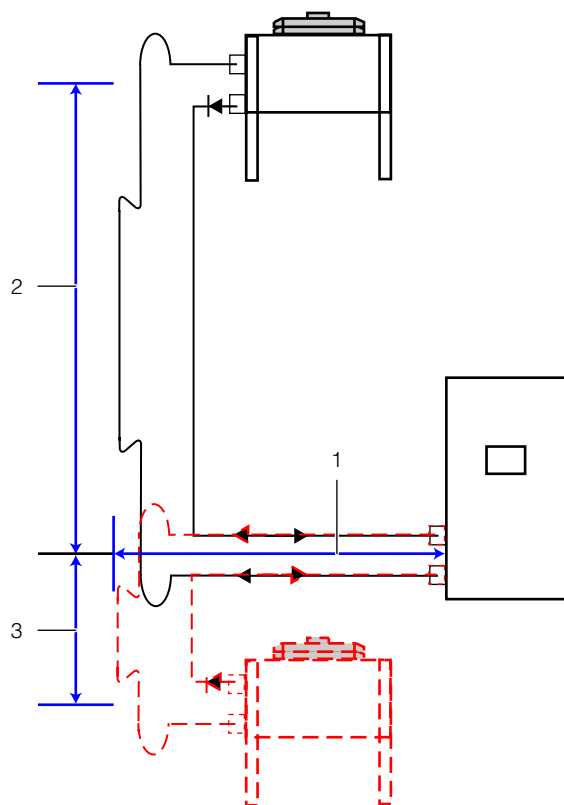

Fig. 12: Relative positioning
Sum total of horizontal (fig. 12, item 1) and vertical spacing (fig. 12, item 2 or item 3) between the LCP DX and the condenser	Max. 30 m equivalent length
Condenser above LCP DX (fig. 12, item 2)	max. 20 m
Condenser below LCP DX (fig. 12, item 3)	max. 3 m